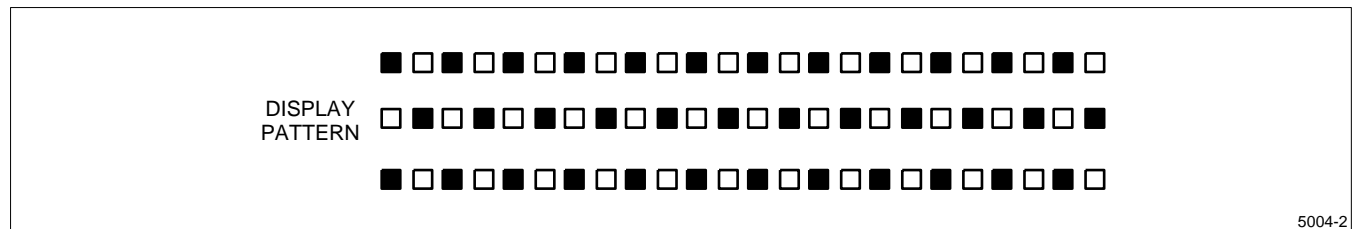

Figure 3. Display High Frequency Pattern
- Display high frequency pattern: $V_{DD} = 5\text{ V}$, $V_{EE} - V_{SS} = -17.6\text{ V}$, frame frequency = 85 Hz, display pattern = 1-bit checker (Figure 3).